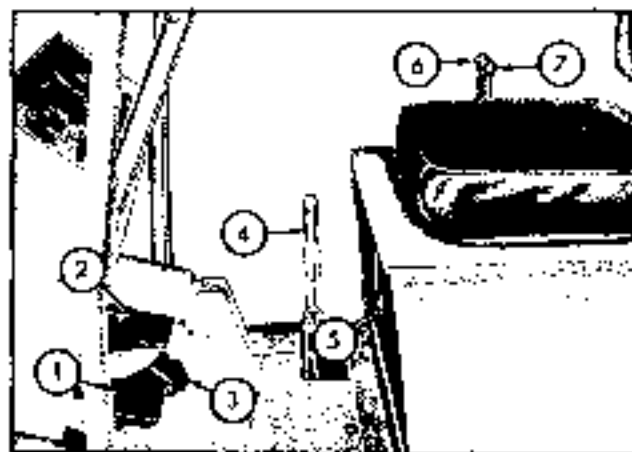
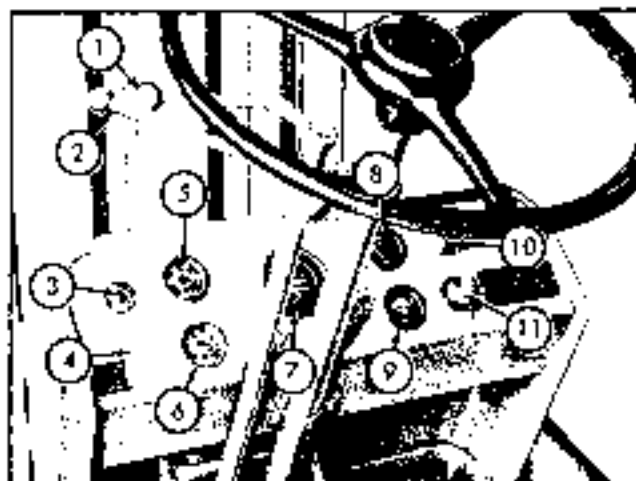

Fig. 1-7. Controls
Fig. 1-8. Instrument Panel
b. Position the forward-reverse shift lever (1, figure 1-8) in neutral. A neutral starting switch prevents the engine from starting unless this lever is in neutral.
c. Turn the ignition switch (11, figure 1-8) to "ON".
d. Depress the starter button (10, figure 1-8) and release it as soon as the engine starts. Do not depress button longer than eight seconds. If the engine fails to start on first try, allow the engine and starting motor drive to come to a complete stop before making a second attempt. This will prevent damage to the starting motor housing, the drive, and the flywheel ring gear. On a gasoline engine, it may be necessary to use the choke (5, figure 1-7). When the engine starts, allow it to gradually warm up to its normal operating temperature (approximately 190° F.). Do not race the engine during this warm-up period.
If, after starting the engine, there is very little or no pressure indicated on the engine oil pressure gage, or if there is a sudden drop in pressure while operating the lift truck, stop the engine immediately and determine the cause. Correction usually consists of replenishing the crankcase oil supply. Located on the instrument panel is a red warning light (3, figure 1-8). This light will glow only when the transmission lubricant temperature is excessive, and indicates that the transmission oil supply is dangerously low and must be immediately replenished before further lift truck operation.
2-17. INCHING CONTROL. The inching valve is controlled by the left hand pedal on the combination braking-inching pedal assembly (figure 1-7). Depress the pedal slightly with the left foot - use just the portion of pedal travel before the brakes can be felt to take hold. Depress the accelerator pedal with the right foot. Extremely slow ground speeds can be attained for operating in confined or dangerous areas, while the speed of the lift remains normal.
2-22. **Instruments and Controls** (See figures 1-7 and 1-8).
2-23. **OIL PRESSURE GAGE.** The oil pressure gage (6, figure 1-8) does not indicate the amount of oil in the crankcase; it indicates the pressure of the oil in the engine lubricating system. The gage electrically senses the oil pressure and reflects it on the gage dial. With the engine at normal operating temperature and speed, the oil pressure should be between 25 and 35 pounds.
2-24. **ENGINE TEMPERATURE GAGE.** This gage (5, figure 1-8) indicates the temperature of the cooling fluid. Engine operation under normal conditions should register approximately 150 degrees on the gage. Temperatures excessively higher or lower than 160 degrees indicate a dirty or restricted radiator, or loss of coolant. Do not operate the lift truck until these conditions are corrected.
2-25. **IGNITION SWITCH.** The ignition switch (11, figure 1-8) is a means of opening and closing the ignition circuit; the engine is inoperative unless the switch is turned "ON".
2-26. **STARTER SWITCH.** Depressing the starter switch (10, figure 1-8) with ignition switch "ON", energizes the starting motor which in turn drives the engine flywheel ring gear until combustion takes place in the engine.
2-27. **AMMETER.** The ammeter (9, figure 1-8) indicates the activity of the electrical system. If the needle in-
2-28. **HOURMETER.** The hourmeter (7, figure 1-8) reflects the actual hours of engine operation. Its main purpose is to be the determining factor as to when the lift truck components require overhaul procedures.
2-29. **WARNING LIGHT.** The red warning light (3, figure 1-8) senses the transmission oil temperature and glows only when the temperature is in excess of proper operating limits. This condition is usually remedied by bringing the transmission oil level to full.
a. **Gasoline.** The fuel gage (8, figure 1-8) electrically senses and indicates the amount of fuel in the lift truck fuel tank.
2-31. **CHOKE CONTROL.** (Gasoline only). The choke control button (2, figure 1-7) is cable connected to the choke disc in the carburetor assembly. Pulling forward on the choke button closes the choke disc, thereby enriching the air and gasoline mixture and providing quicker
2-22. LIGHTING SYSTEM (OPTIONAL). Pulling outwardly on the light button (4, figure 1-8) closes the circuit to the lights, thereby energizing them from the current supplied by the battery. Returning button inwardly toward the panel opens the circuit, and renders the lights inoperative.